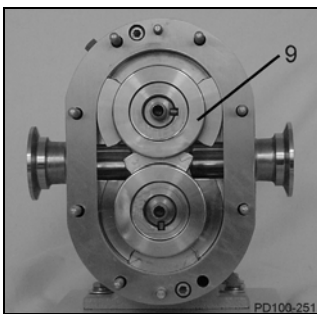

Figure 34 - Remove Overlapping Rotor First
Using only your hands, remove the rotor with the hub overlapping the other rotor wing (Figure 34, item 9). Place the rotors in the up-turned cover to prevent damage to close-tolerance parts.